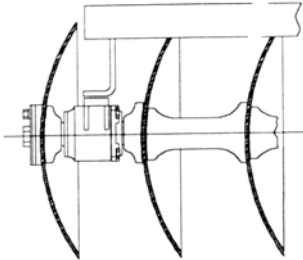

Figure 6
- 09 - Raise the frame (front or rear) and place the disks online. Observe the arrangement on figure 3. Match the drilling of shoes to the drilling of bearings; make the assembly using the screws (1). Note that the mounting bracket (1). Make sure the mounting bracket (shoe) is facing the concavity of the disc, see figure 6.